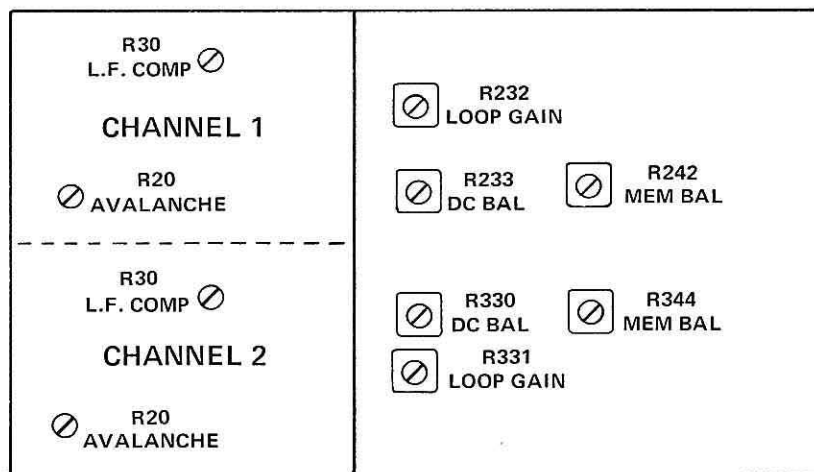

Fig. 7-10. Vertical Adjustment Locations.
a. Change the DELAYED SWEEP control to 1 ns, the CH 1 VOLTS/DIV to .1, then center the step using the DELAY TIME MULT control. Preset R232 (R331 for CH 2 - see Fig. 7-10) fully counterclockwise.
b. Rotate R20 (see Fig. 7-10) clockwise until the step disappears then counterclockwise until it barely makes a clean display. Note the horizontal position of the bottom corner and set R20 further counterclockwise until the bottom corner moves to the left one-half division. Ignore any vertical movement.
a. Change the time per division of both sweeps to 1 μ s. Temporarily disconnect the signal from the CH 1 INPUT. Using two screwdrivers or adjustment tools, one on R232 and one on R233, (see Fig. 7-10), set R233 to minimize vertical movement of the trace while rotating R232 back and forth over the first 90 degrees from the counterclockwise end of its travel. Temporarily set R232 fully counterclockwise.
- a. Change the time per division of both sweeps to $1 \mu\text{s}$. Temporarily disconnect the signal from the CH 2 INPUT. Using two screwdrivers or adjustment tools, one on R331 and one on R330 (see Fig. 7-10), set R330 to minimize vertical movement of the display while rotating R331 back and forth over the first 90 degrees from the counterclockwise end of its travel. Temporarily set R331 fully counterclockwise.
Adjust R30 (see Fig. 7-10) for a flat, level top of the 10 μ s square wave.
Adjust R30 (see Fig. 7-10) for a flat level top (or bottom) of the 10 μ s square wave.